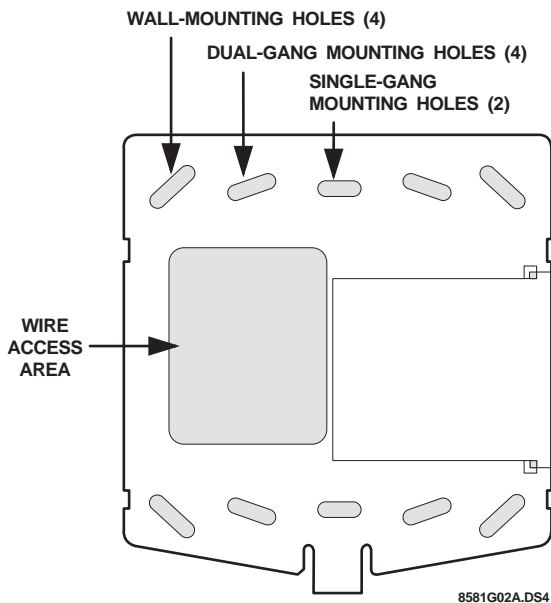

Figure 2. Marking the Mounting Holes
2. Place the mounting plate on the wall and mark the four mounting holes (see Figure 2). Be sure to leave a 4¼-inch clearance on the left side to allow for the Quick Guide slide-out card.